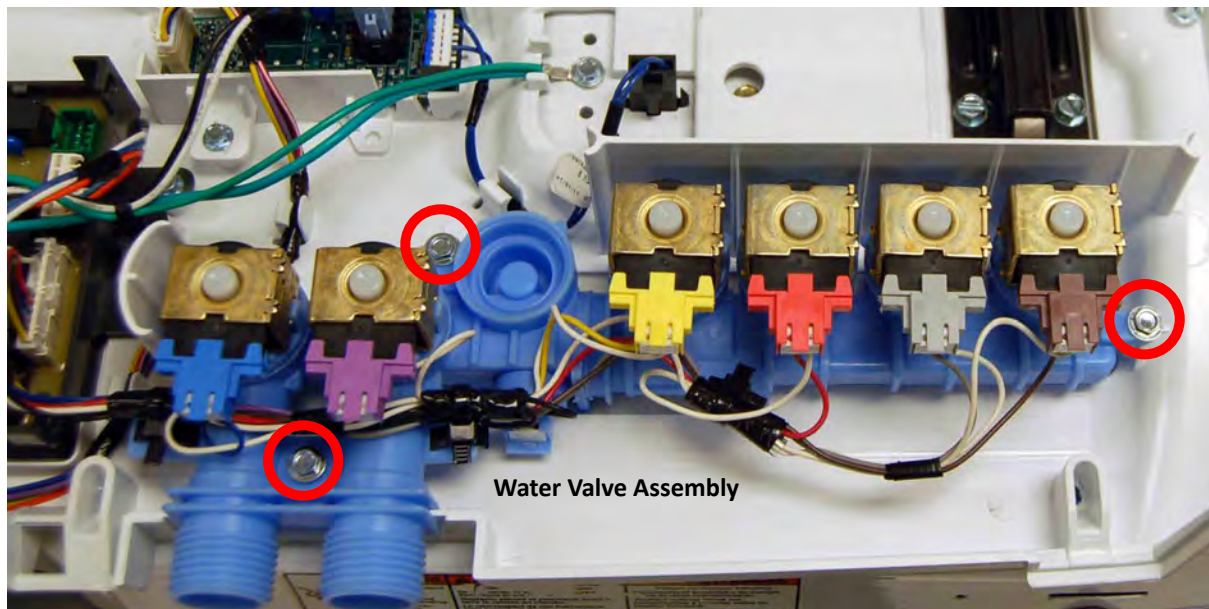

Figure 3
- Using a 1/4" nut driver, remove the three (3) hex-head screws securing the water valve assembly to the top panel of the washer (locations circled in Figure 3 below). Remove water valve assembly.